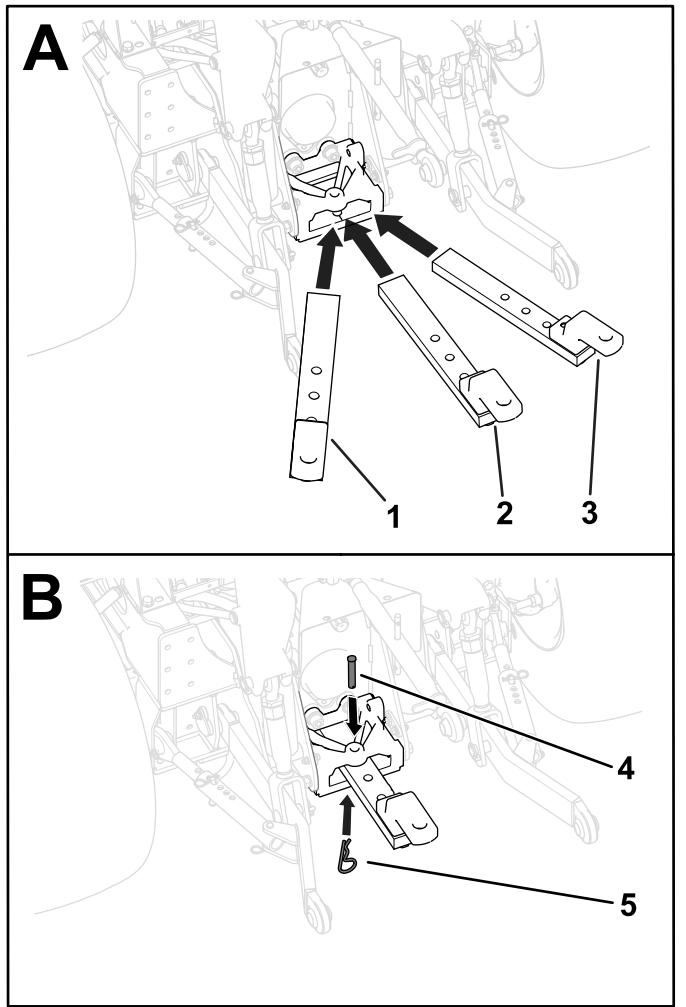

Figure 21
You can install the drawbar in a left-side-adjusted, right-side-adjusted, or centered position (Figure 21). Determine the appropriate drawbar position for your attachment, then install the drawbar as follows:
1. Insert the drawbar into the drawbar support (Figure 21).
2. Secure the drawbar to the support by inserting the clevis pin through the one of the three mount hole locations in the drawbar and attaching the hairpin cotter to the pin (Figure 21).